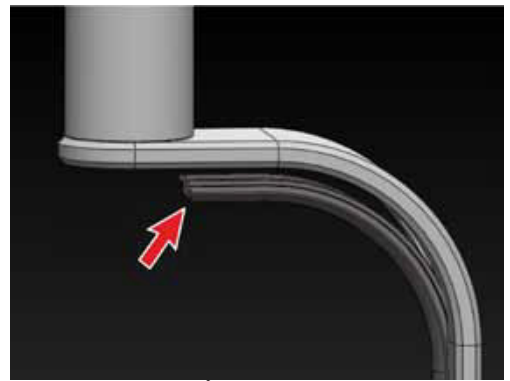

Figure 57
- Remove the rubber Cable cover on the L-Arm by pulling out as shown in Figure 57.